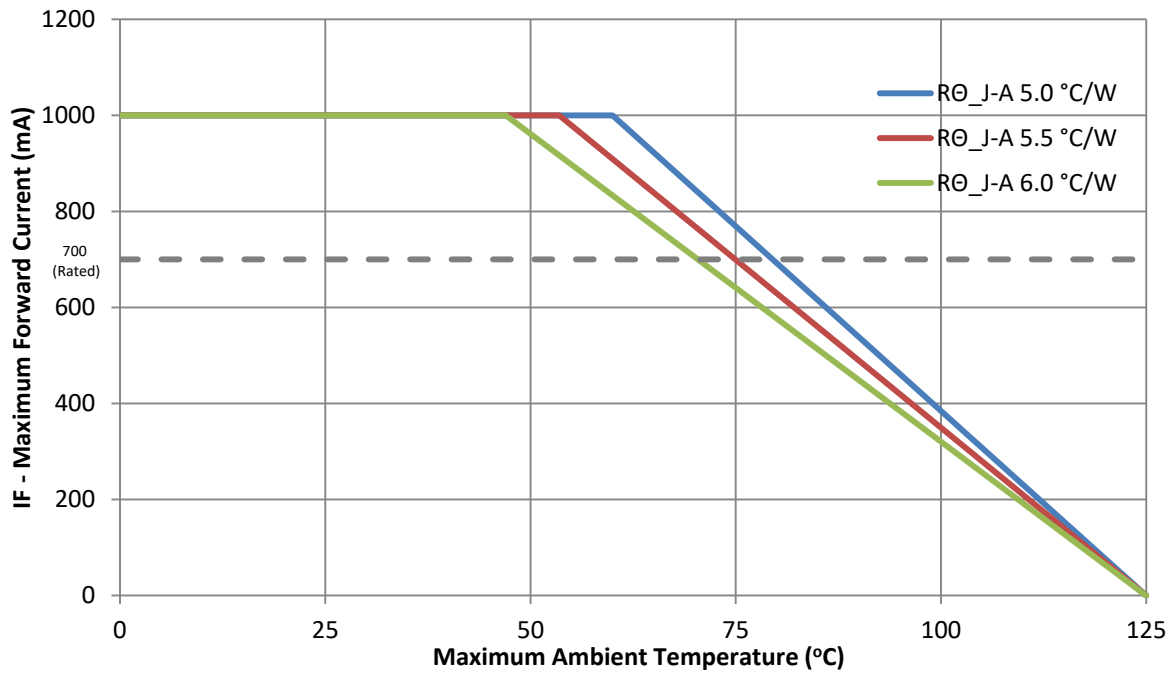

Figure 9: Maximum forward current vs. ambient temperature based on  $T_{J(MAX)} = 150^{\circ}C$ .
- Maximum DC forward current (per die) is determined by the overall thermal resistance and ambient temperature. Follow the curves in Figure 9 for current derating.
Notes for Figure 9: